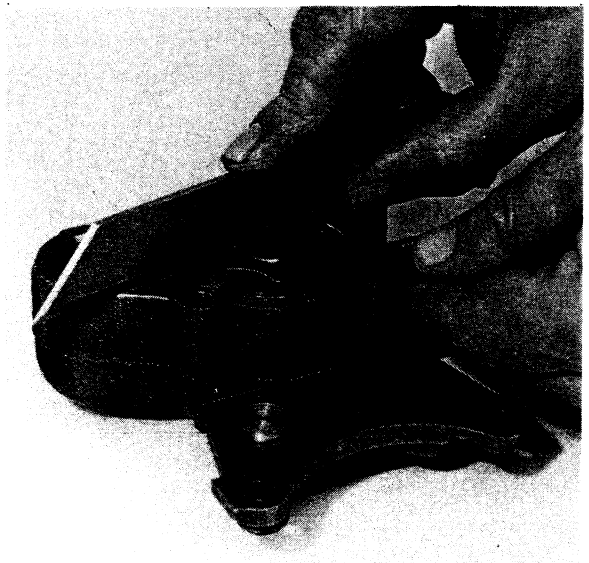

Fig. M10
3. Check the clearances between top of rotors and end of pump body (see fig. M10).